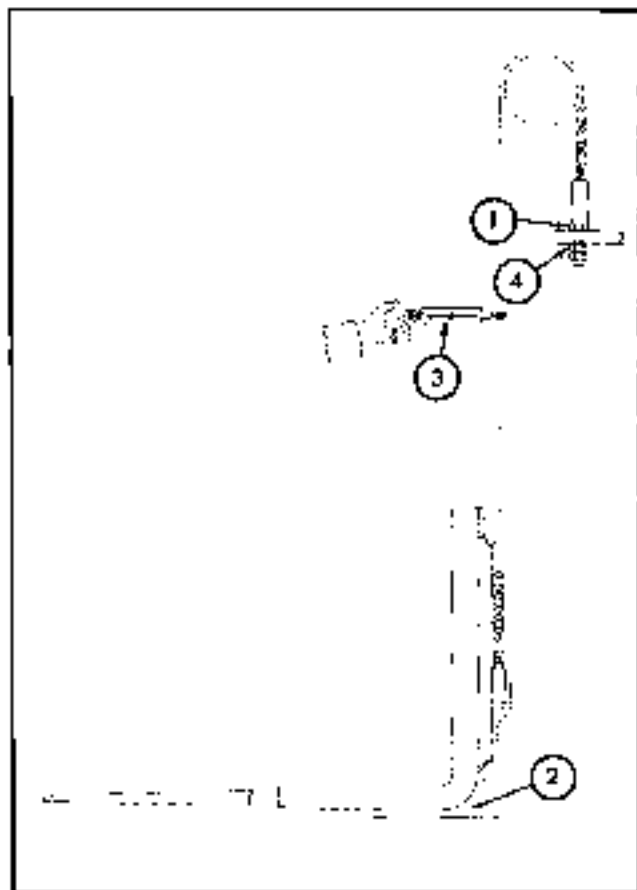

Fig. 1-37. Adjusting Chains
d. Turn the chain anchor rods into chain anchors as far as threads will allow (at 1, figure 1-37).
e. Fork-to-floor clearance (at 2, figure 1-37) will range from 6 to 3/4 inch, depending on tire deflection and machine tolerances.
f. Attach tension scale as shown (3, figure 1-37), apply force, and measure the deflection in the chain. Attach scale at same height to opposite chain, apply same force and measure deflection in chain.
g. Adjust spherical nuts (4, figure 1-37) until deflection is equal on both chains with equal tension. Keep spherical nut and jam nut as close to end of anchor stud as possible and still obtain above adjustments. This will allow lowest possible position of forks. Tighten jam nuts.